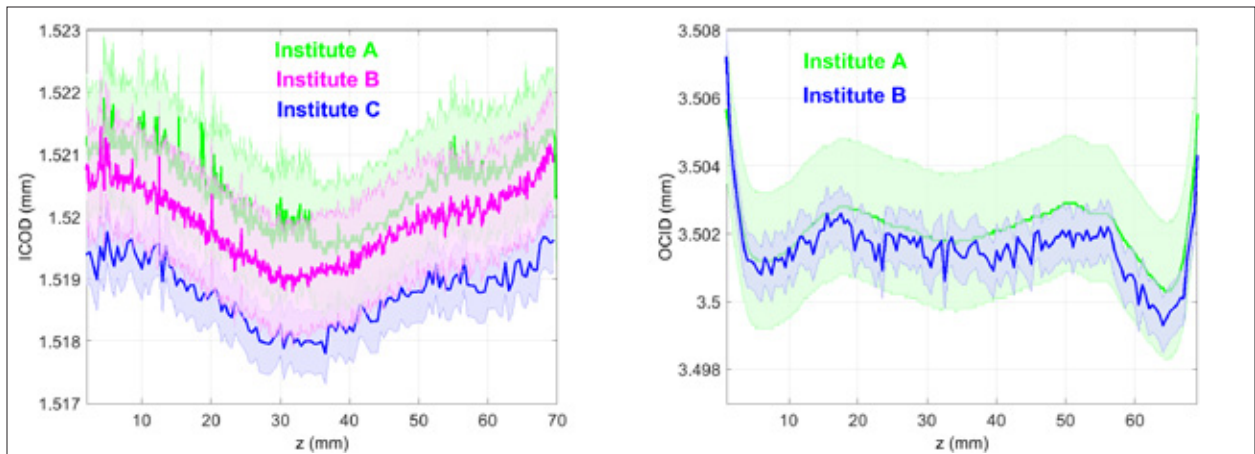

Figure 2. Measurement of the one-calculable standard.
In order to increase S-parameter measurement accuracy among the project partners, primary traceability and uncertainty budget for the S-parameter measurements have been established through calculable calibration standards with use of specialized software tools. Training and workshops activities have been organized to evaluate reliable VNA measurement uncertainties and applied S-parameter measurement system. Partners gained the ability for modelling of calibration standards for S-parameters and calculating rigorous uncertainty propagation through a measurement model and new software capabilities. To prove the acquired ability of the partners, two inter-laboratory comparisons on S-parameter measurements of one-port, two-port and three-port standards [3] and calculable primary calibration standards were conducted. To characterize the calculable standards, partners measured mechanical parameters of the standards. Measurement result of an ‘airline’ standard for outer diameter of the inner conductor and inner diameter of outer conductor are given in Figure 2 [1].
Figure 2. Example of single phase TracePQM measurement setup for calibration of power analyzer: (1) TWM measurement tool; (2) Phantom power calibrator Fluke 6105A (source); (3) Unit under calibration (Yokogawa WT3000); (4) Sampling multimeter Keysight 3458A (voltage channel); (5) Sampling multimeter Keysight 3458A (current channel); (6) External voltage divider; (7) External current shunt.